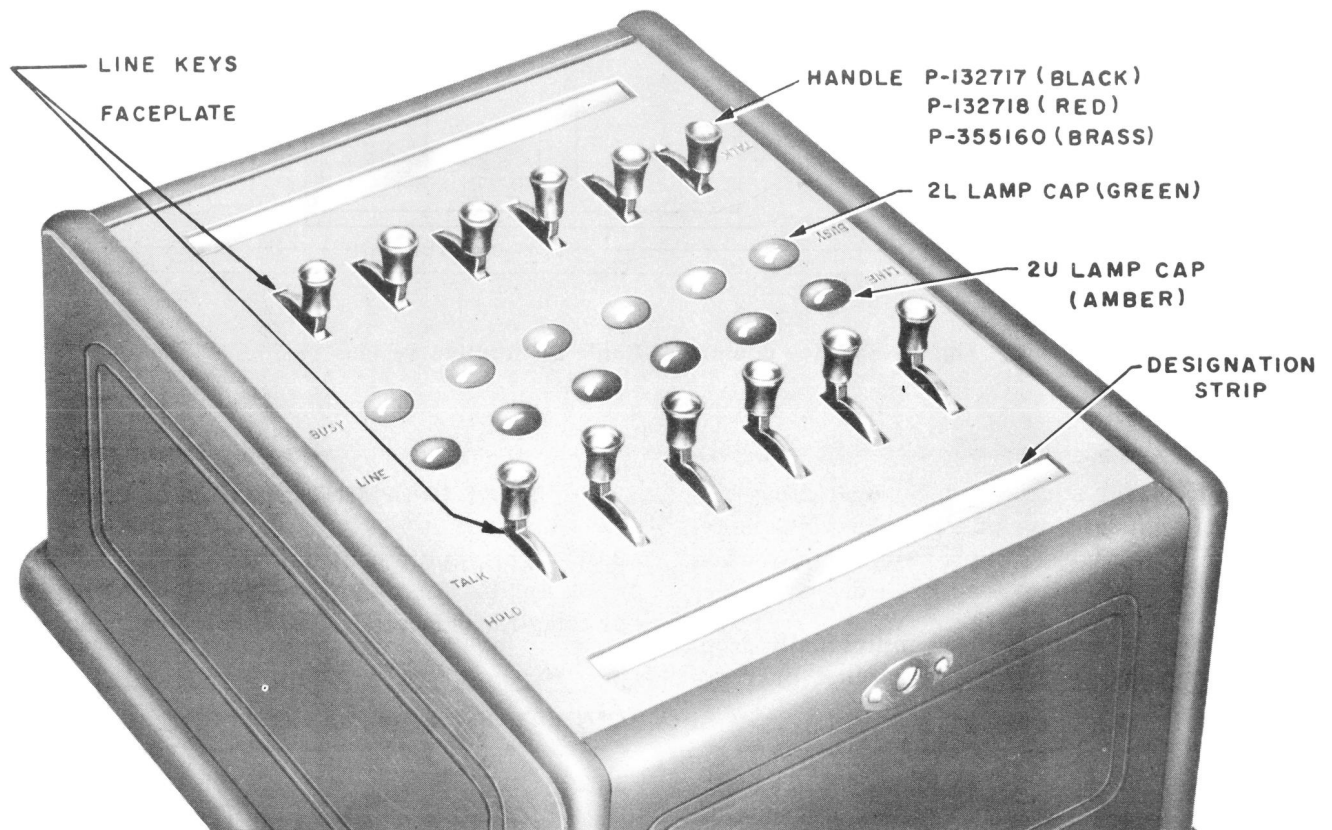

Fig. 1 — 6-line Double-sided Key Box
- Wooden key boxes containing line keys with line and busy lamps (see Fig. 1).